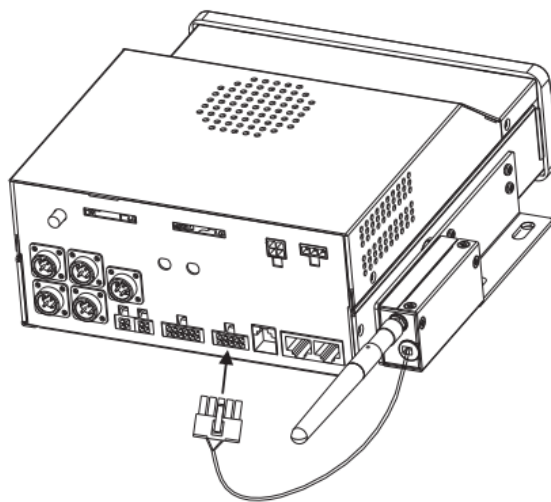

Figure 2-9
Step 3: Connect the cable of the WiFi module to the corresponding port of the device. See Figure 2-9.